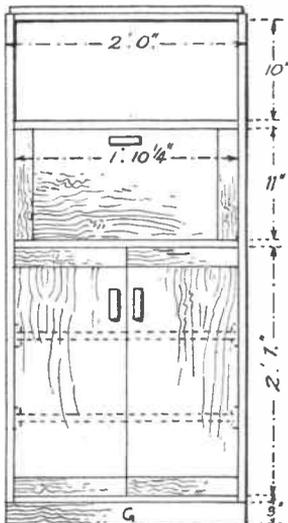
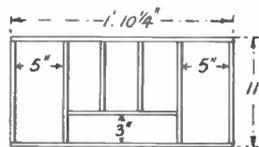
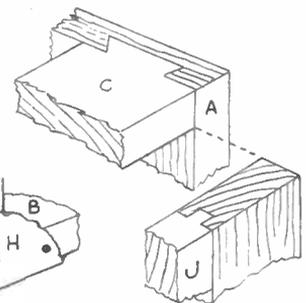

Fig. 1
Fig. 6
Fig. 3
The base of the fitment consists of the rails (G) and two rails (F). They are rebated and screwed to the floor, as shown, with blocks glued behind them. The hinged front of the bureau is solid, and is partly framed by the two upright rails as seen in the detail Fig. 3. The two doors are made in similar manner as seen in the front view, Fig. 1. The doors and the bureau front are fitted with 2½ins. brass or chromium plated hinges, and a small bolt is put behind the left-
The main top of the bureau is fixed to the rails (C) by screws from beneath. In Fig. 6 the plan is shown for making the pigeon hole fitment. This is constructed from ¾in. wood and then slipped into place and screwed. A separate back is not required for this fitment, as it fits snugly against the main back of the bureau. A triangular fillet may be added to enable it to be screwed firmly into place. Two shelves can be fitted in the cupboard as suggested by the dotted lines in Fig. 1. Plain strip wood bearers screwed to the sides would act as supports